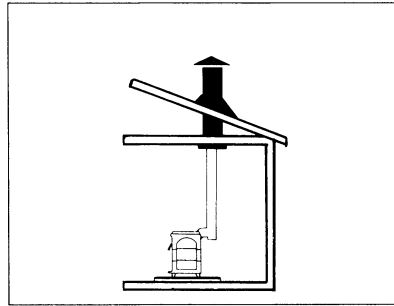

Figure 13
- (4) out the back and through the roof; (see Figure 13)